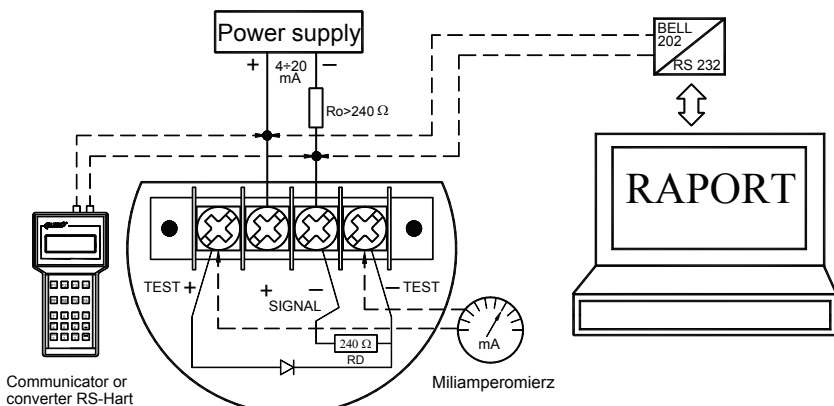
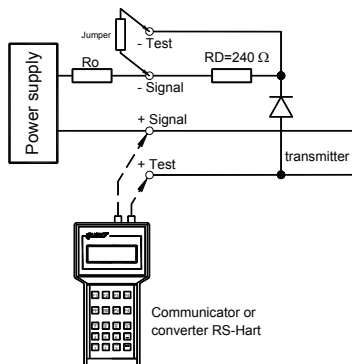

Fig. 10a
Fig. 10b
For execution of electrical connections of transmitters **APC(R)-2000ALW (Ex) Safety** see Fig. 10. Resistor $240\ \Omega$ is serially integrated, permanently, in the current circuit of transmitter and shorted with jumper on connection terminals between <SIGNAL-> and <TEST->, see Fig. 10b. To use the that resistor in Hart communication, e.g. in the event of too low resistance in measurement loop, the jumper is to be removed.
- When resistance seen from transmitter to the line is $R_o > 240\ \Omega$, then we can communicate with the transmitter via connection to line <Signal +> and <Signal ->, see Fig 10a. (R_o = line resistance + load)
- When $< 240\ \Omega$ communication shall not be established, and R_o is to be increased to min. $240\ \Omega$ as in Fig.10a. Transmitter is fitted with additional communication resistor $RD = 240\ \Omega$ (Fig. 10b). (During normal operation terminals <Signal -> and <Test -> are to be together, not to introduce additional resistance from line circuits). RD resistor is used when we want to establish local communication with transmitter (from its terminals), when $R_o < 240\ \Omega$. (Then terminals <Signal -> and <Test -> are to be apart).